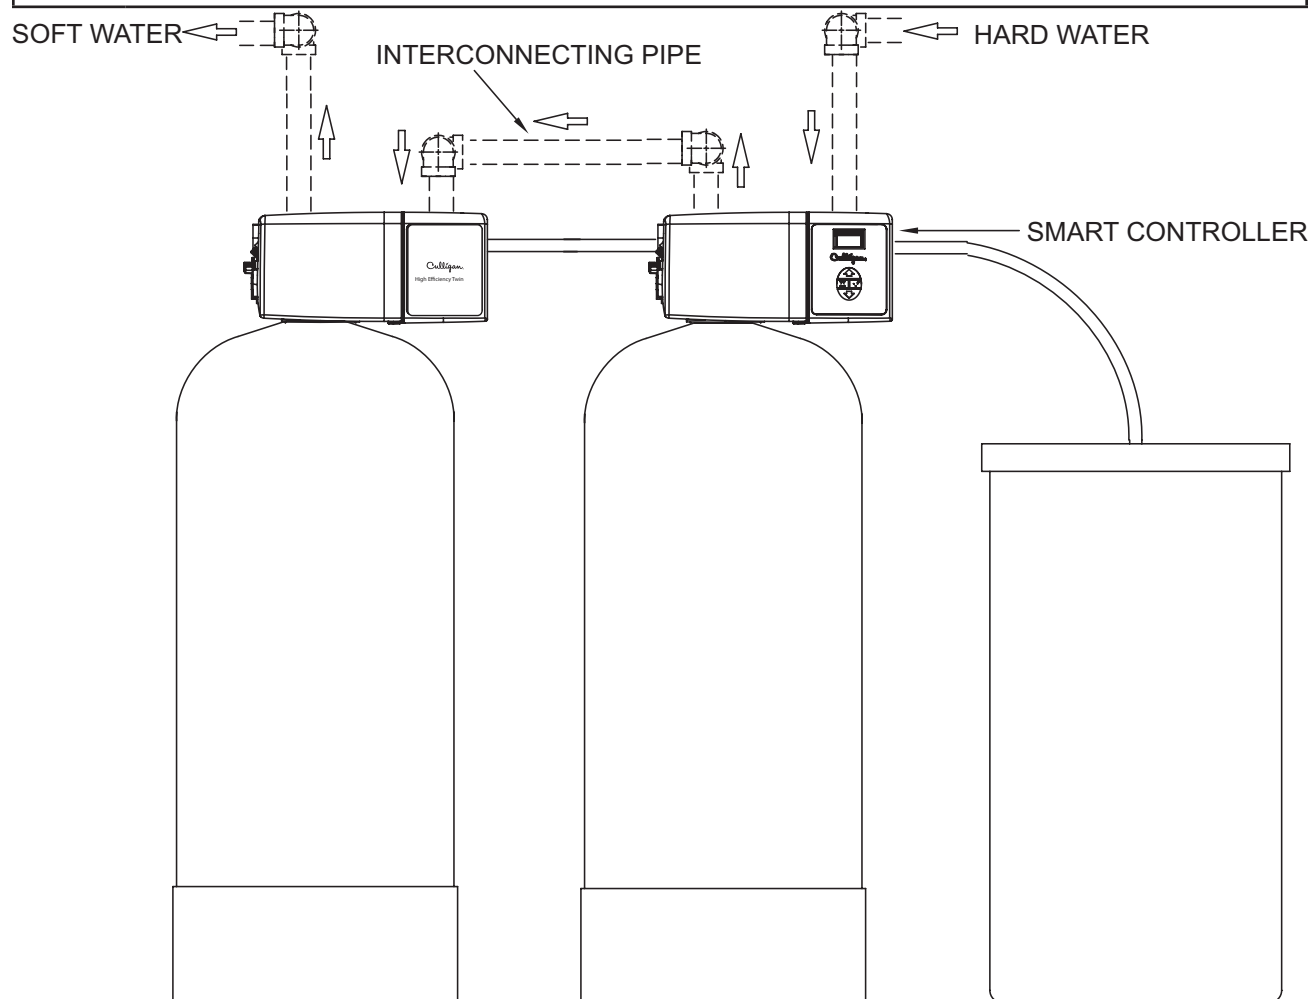

Figure 9.HE 1.5 Twin tank piping.
1. Depending on the type of softener system and the installation parameters, required pipe lengths and piping accessories will vary. See Figure 9 to aid the installation. If the layout drawings are not sufficient for your application, consult the Culligan dealer for specific installation guidelines.
CAUTION! The media tank must never be subjected to an internal vacuum or it might be damaged. Drain line suction can be prevented by piping the system in similar fashion to that shown in Figure 9. A vacuum breaker may be installed on either the inlet or the outlet side of the vessel as close to the vessel as possible, preferably between the vessel and any isolating valves. If an installation has a booster pump downstream of the vessel, install the vacuum breaker on the outlet side. Do not install a vacuum breaker on the drain line. Use a vacuum breaker, such as Culligan 00401584 or 01003701. Multi-tank systems will require at least one vacuum breaker per tank.